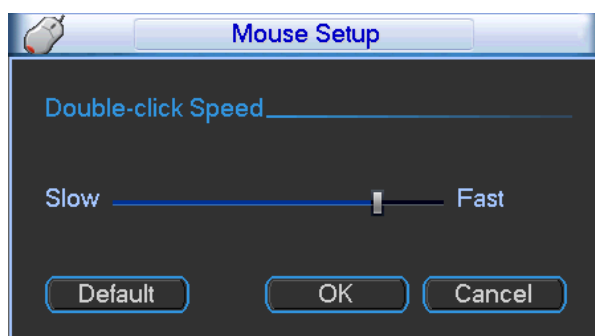

Figure 5-25
- **Mouse property:** Click mouse setup button, you can go to mouse setup interface. See Figure 5-25. You can set double click speed via dragging the slide bard. You can Click Default button to restore default setup.